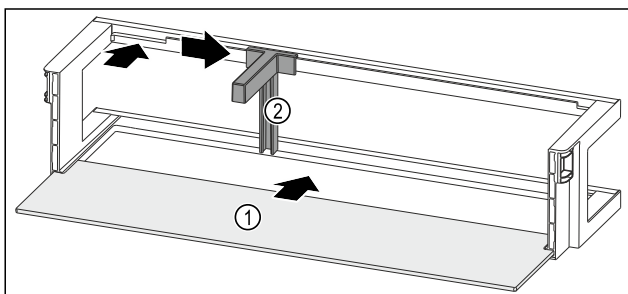

Fig. 129 Door rack with shelf
- Push the shelf Fig. 129 (1) into the side recesses.
- Insert the bottle holder Fig. 129 (2) in the recess.
- Push the bottle holder Fig. 129 (2) to the desired position to the side.